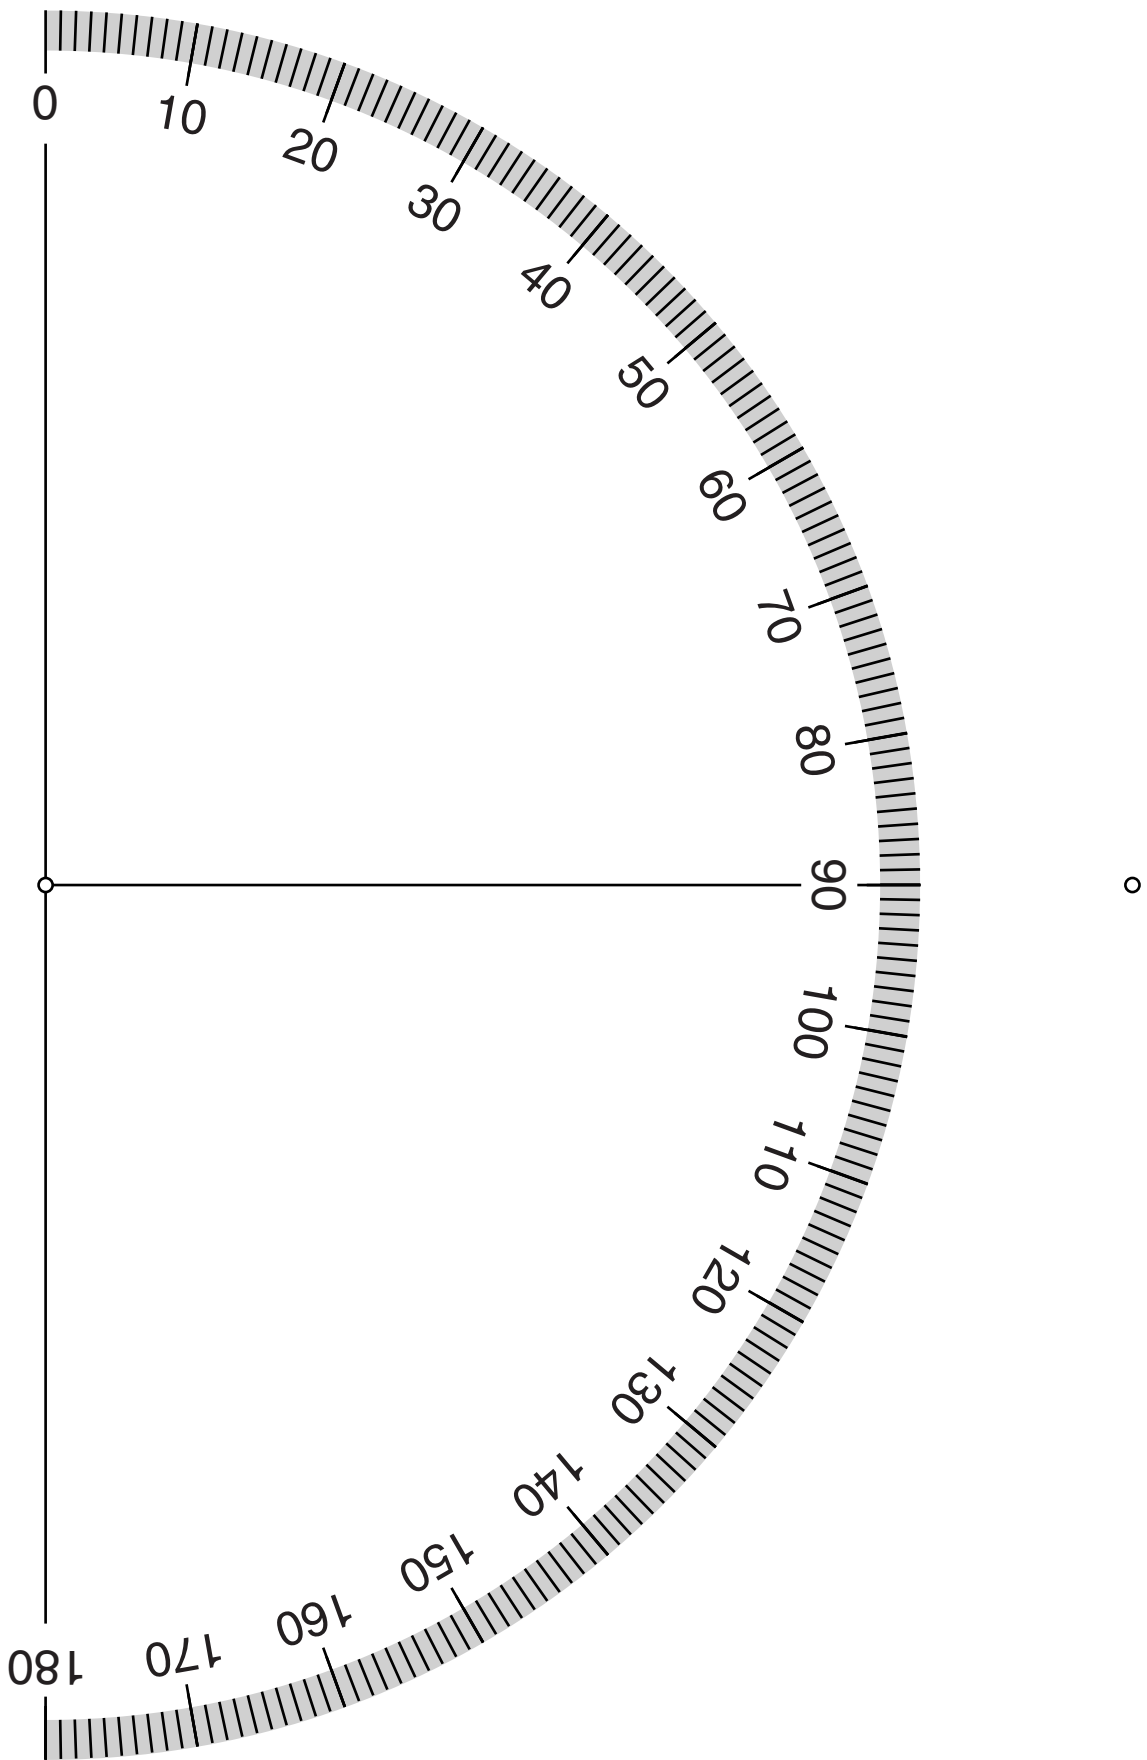

Fig. 2.4
- 3 A copy should be made of Fig. 2.4 (on page 6). This should be glued onto a piece of thick card.